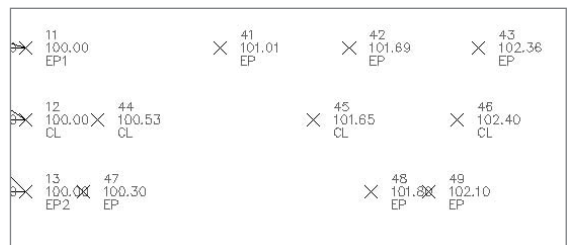

Figure 4.20
7. A collection of survey points appears in the drawing representing EP and CL, as shown in Figure 4.20.